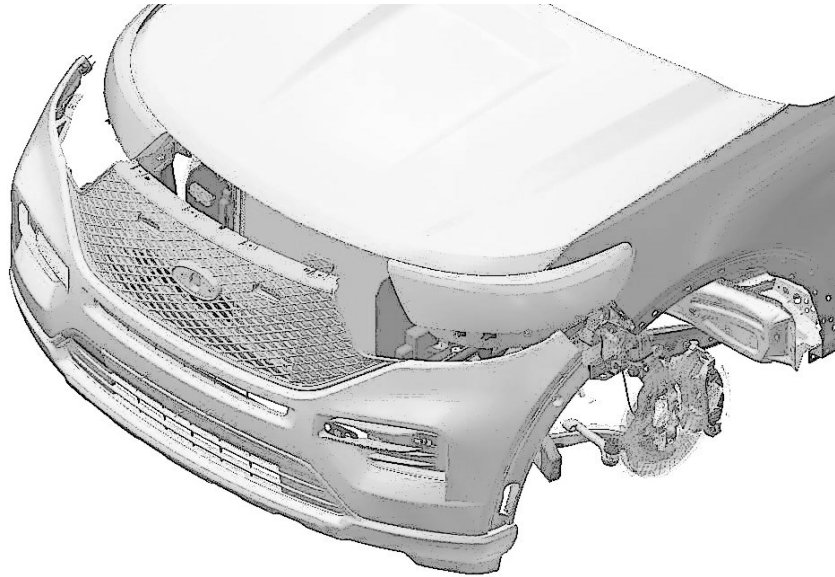

Fig. 3
A. Re-installation will be the reverse of step III. (Fig. 3)